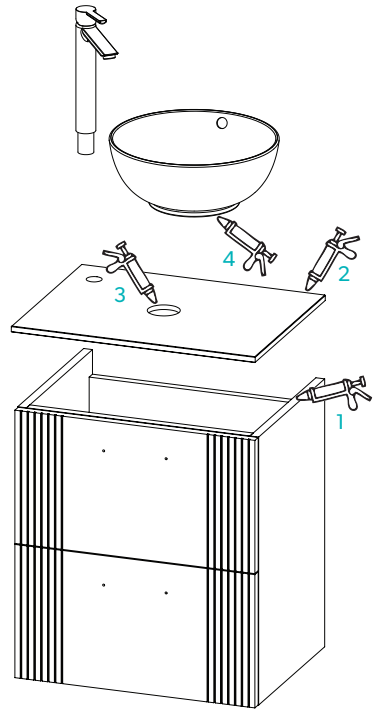

Fig. 4
11. Silicone along the top edge of the unit and fit basin/countertop on top. Silicone along back edge of basin/countertop and along the back of the unit and wall as per *Fig. 4.* Allow to set fully.